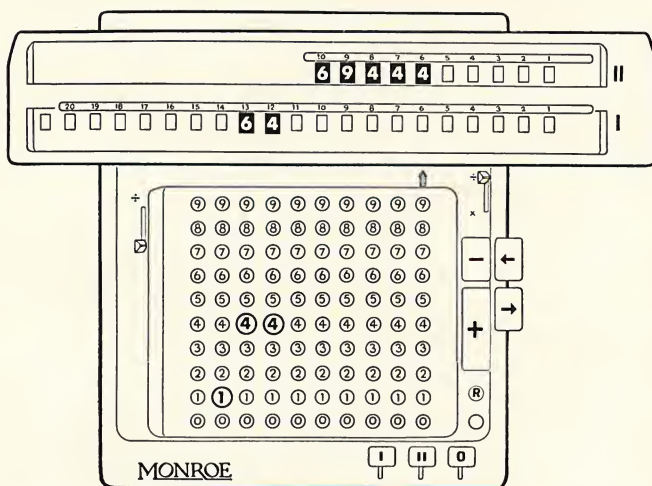

Figure 24
Step 3—Push divide lever. Note that on the first revolution of the machine the 144 is subtracted from the lower dials leaving only the 1 and the upper dials are cleared. In this case only 4 significant figures are required in the reciprocal so the automatic division should be stopped when it has been carried to 5 places. This is done by returning the divide lever to normal position when 5 of the upper dials are filled with figures. See Figure 24.